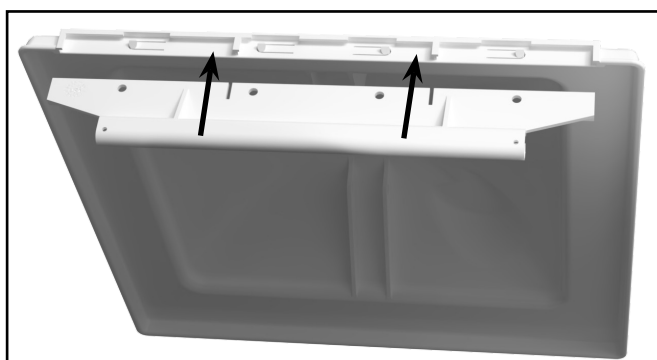
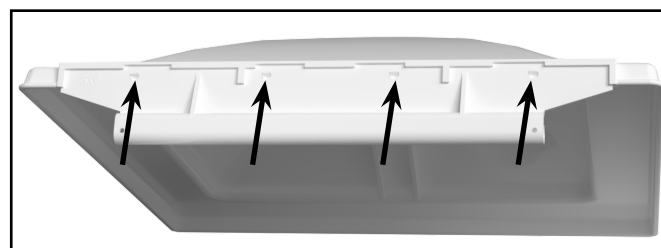

Figure 1
Figure 2
2. Line up the guide slots in the hinge with the guides (**Figure 1**) in the hinge receptacle area of the universal lid and slide it up into place until it is fully seated and locked. (**Figure 2**)